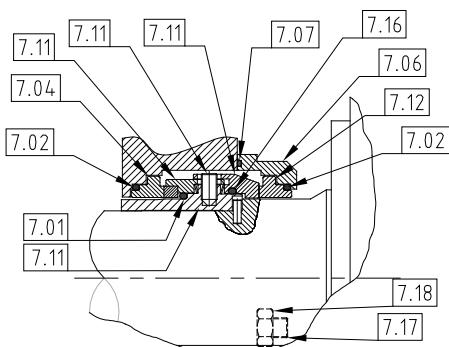

Figure 43
- Refer to Figure 43 for Double flushed mechanical seal for CP50.